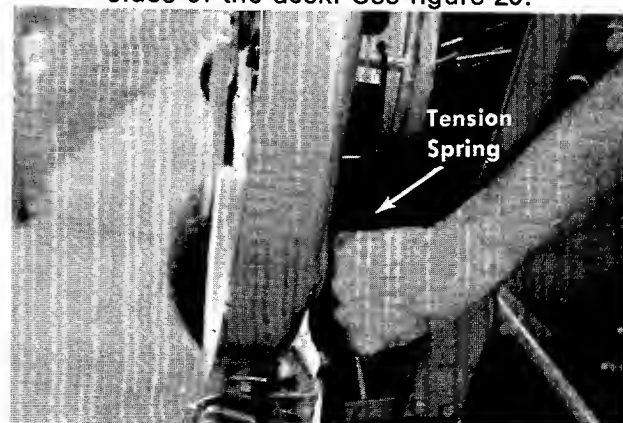

FIGURE 29. REMOVING TENSION SPRINGS
Step 5. Unhook the tension springs on both sides of the deck. See figure 29.
- Step 5. Unhook the tension springs on both sides of the deck. See figure 29.
- a. Remove the entire belt guard from the engine pulley by removing the two front engine bolts. See figure 29.